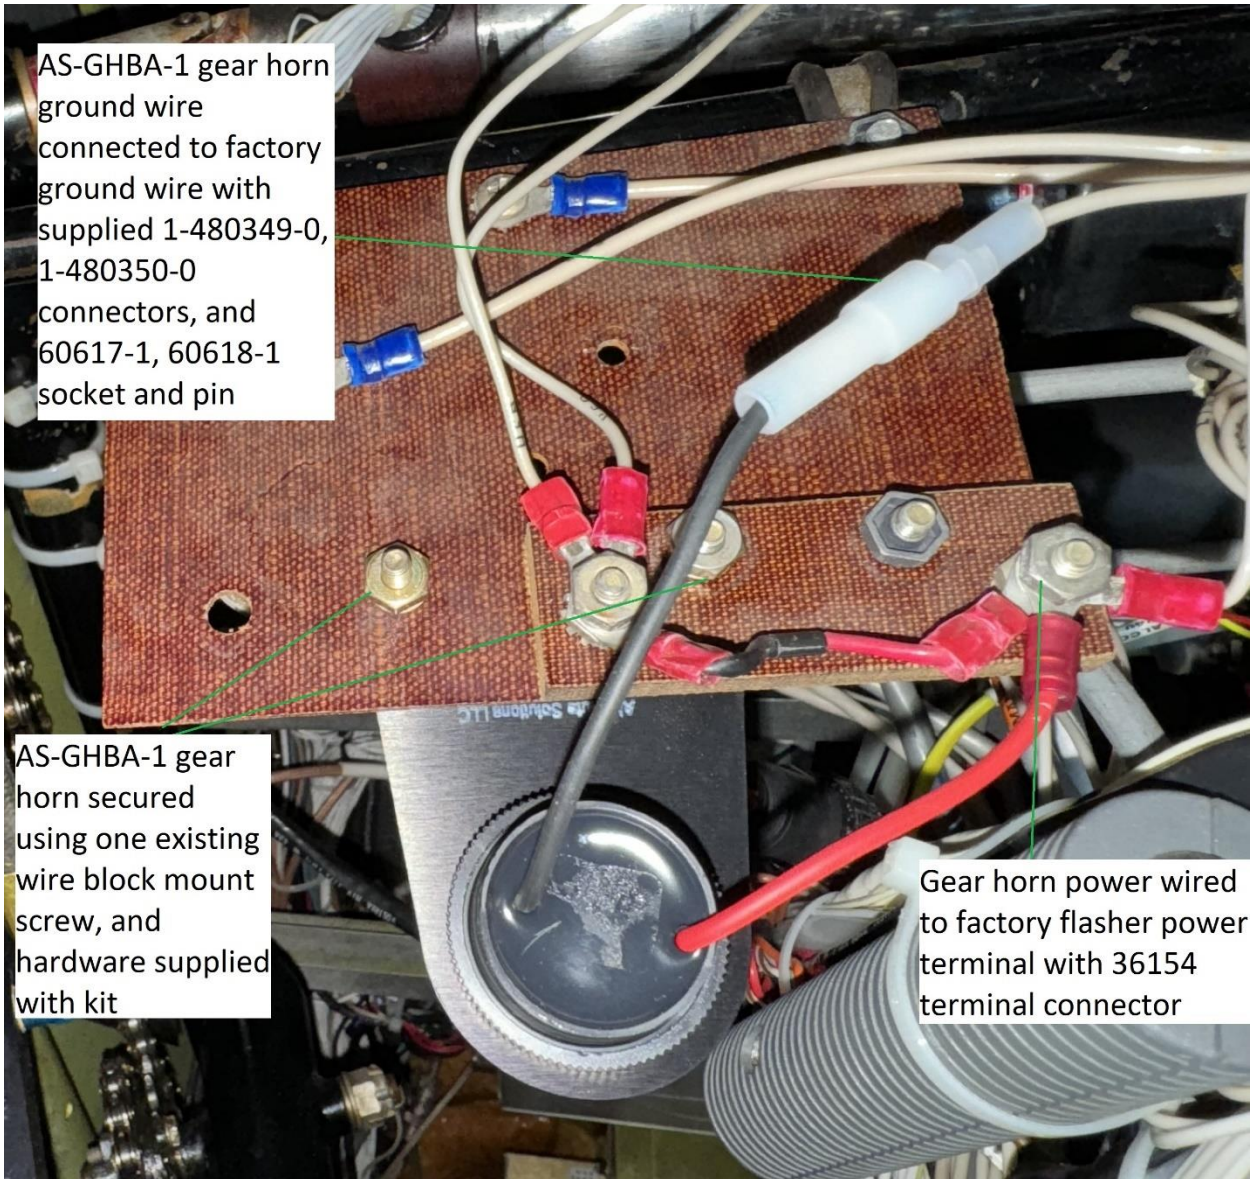
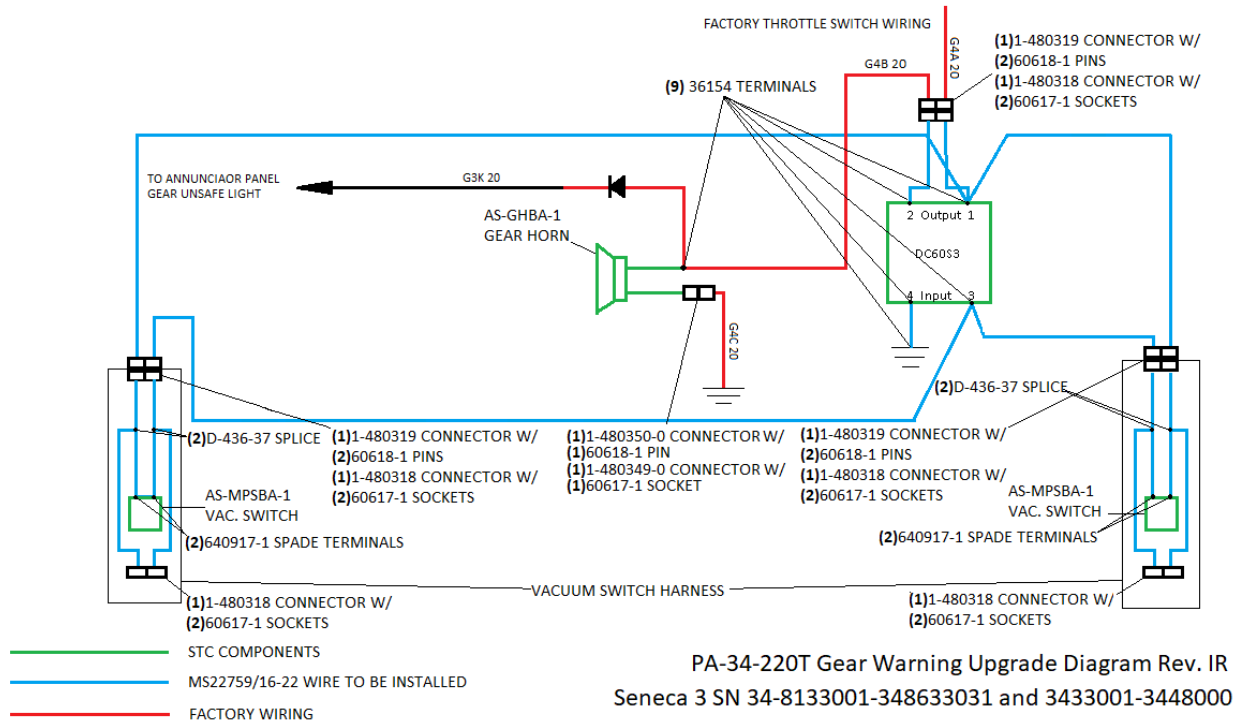

Figure 2-2. PA-34 AS-GHBA-1 Gear Horn Installed
Figure 3-1. PA-34-220T Wiring Diagram
2. See figure 2-2. Partially install AS-GHBA-1 gear horn into FWD wire block mount hole with existing wire block hardware.
4. Remove AS-GHBA-1 horn, drill marked mounting hole location with a #18 or #19 bit, then reinstall horn with supplied hardware as shown in Figure 2-2. Ensure supplied lock washers are installed under each mount nut.
5. See Figure 2-2 and wiring diagram in Figure 3-1. **Make necessary wiring connections utilizing supplied hardware and standard maintenance practices found in AC 43.13-1B.**
- 1.) Remove throttle position switches with associated brackets. Retain throttle position wires noted in Figure 3-1.
- 3.) Fabricate a two-pin jumper harness from throttle switch wires G4A and G4B to the correct numbered relay terminals noted in Figure 3-1.
- 4.) See figure 3-1. Fabricate (2) two-pin wire harnesses to connect the vacuum switch harnesses noted in Figure 1-1, to the correct numbered terminals on the DC60S3 relay. Wiring between AS-MPSBA-1 switches and DC60S3 relay must be routed along existing wire bundles behind leading edge wing panels. Wire harness can be fabricated using M22759/16-22 wire. Use standard installation practices referenced in AC 43.13-1B Ch. 11.